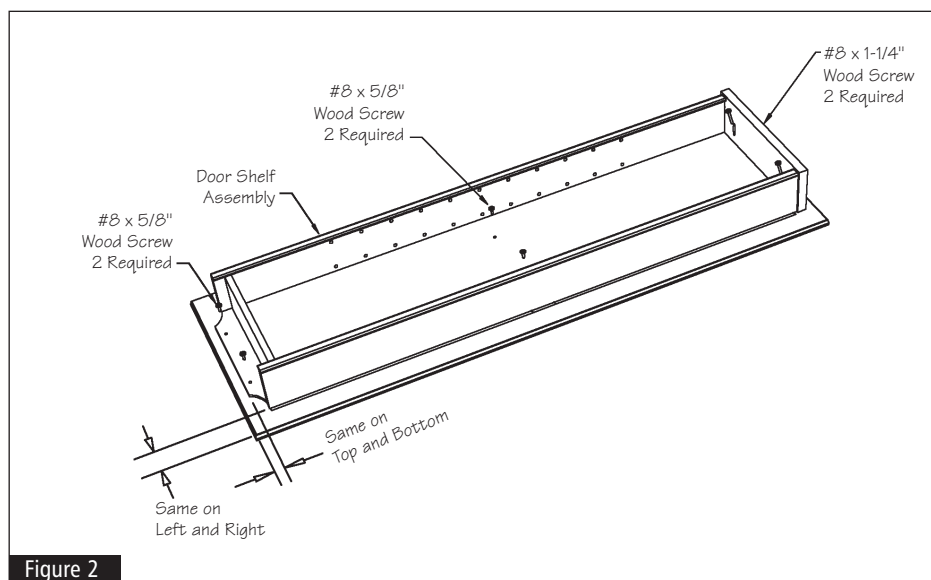

Figure 2
- 2** Position the door shelf assembly onto the back of the door. Be sure the flat (top) end of the door shelf assembly is facing towards the top of the door. Using a tape measure, center the door shelf assembly from side to side and top to bottom on the back of the door. See Figure 2.